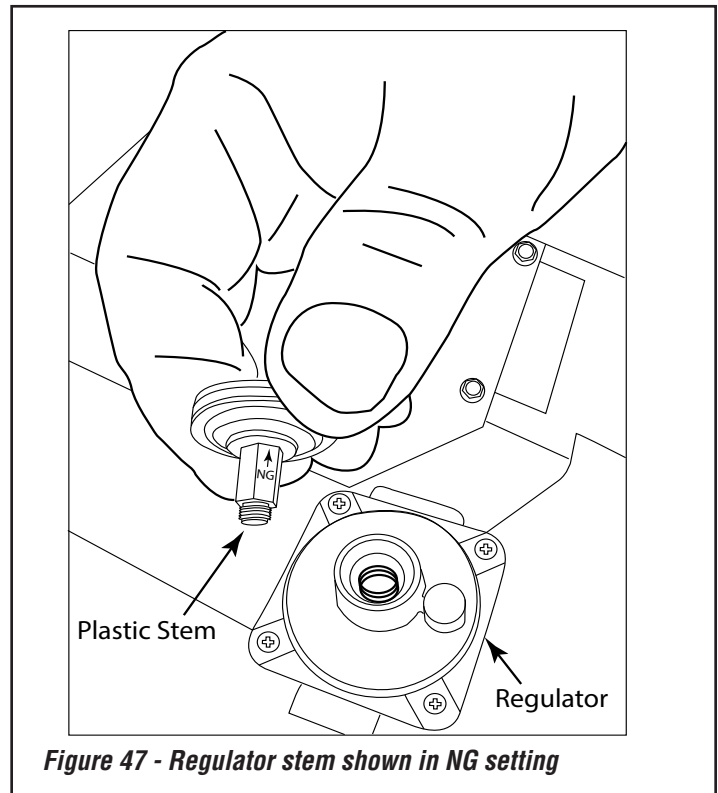

Figure 47 - Regulator stem shown in NG setting
Step 5. On the underneath side of the aluminum cap is a plastic stem. Using a 6mm wrench remove the stem, unscrew the stem (counter-clockwise ↺), turn it over and install the opposite end back into the cap. See *Figure 47*.
The gas type is determined with the arrow pointing at the aluminum cap as seen in *Figures 47 and 48*.